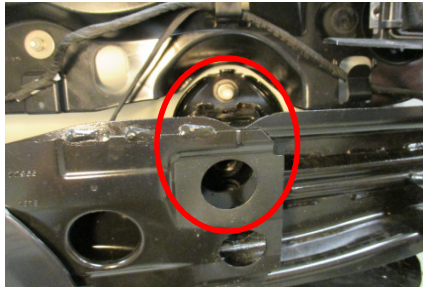

Figure 5
3. Bumper beam removal – unplug wiring at the bottom of bumper beam each side. Use 8 and 13 mm socket to remove flange nut and screw attaching to exhaust hanger and splash guard, see Figure 4. Use 19 mm socket to remove (4) flange nuts attaching to bumper end panel and then remove bumper beam, see Figure 5.